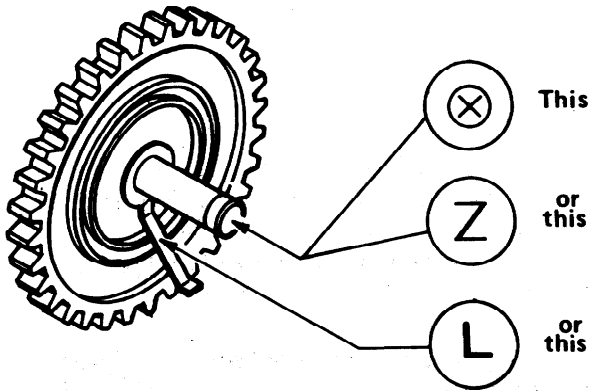

Figure 2. Location of Identification Mark(s)
hours or at the next regularly scheduled inspection, whichever occurs first, and reinspected every 100 operating hours until the magneto has 500 operating hours. If the gears fail the inspection they must be replaced immediately with new, serviceable gears; if they pass each inspection they may remain in service until magneto overhaul, at which time they must be replaced with new, serviceable gears. At owner's option, gears that pass inspection may be replaced at any time during the compliance period with new, serviceable gears as identified in this paragraph and figure 2. Serviceable gears are identified by the presence of the letter "z" or the letters "x" and "o" appearing together, laser etched on the retaining ring end of the gear axle, or the letter "L" stamped on the electrode (see figure 2).
4. Clean and inspect each gear. If the gear is part of an insulated gear kit (identifiable by the presence of a nylon insulating washer on the gear axle between the gear and the block) inspect for the presence of the letter "L" on the electrode (see figure 2). If "L" is stamped on the electrode, the gear is serviceable and can be reinstalled. If "L" is not present, the gear must be replaced with serviceable gear, P/N 10-682014 for 4 or 8 cylinder magnetos or P/N 10-682016 for 6 cylinder magnetos.